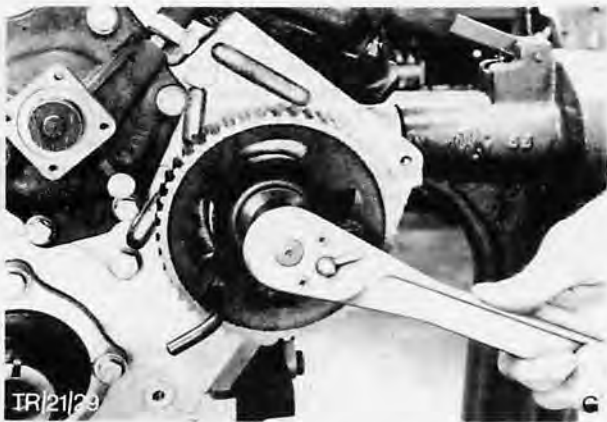

Fig. 82. Lock camshaft gear using Special Tool 21-016 and secure
- 59. Lock camshaft gear using Special Tool 21-016 and torque as specified in Technical Data, Fig. 82.